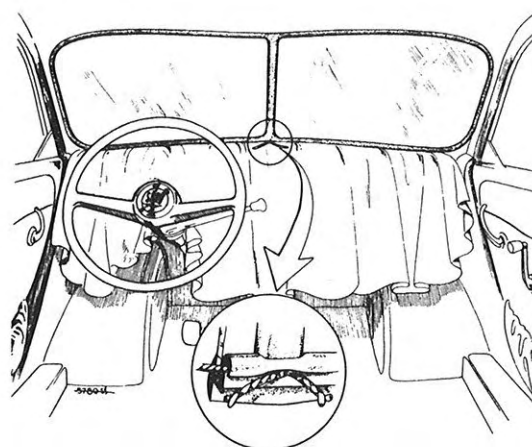

Fig. 4. Installation of windshield
6. Insert a cord into the groove intended for the edge of the body sheets, see Fig. 4.
2. Fit new glass of the prescribed type into the rubber strip. Install glass and rubber strip with the aid of a cord as described for the windshield, see also Fig. 4. Start at the front edge of the window.